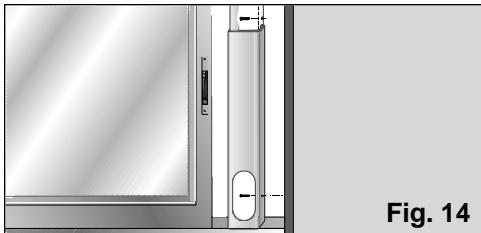

Fig. 14
- ❑ The accessory has two holes on the side to fit it to the window / balcony with. The user can secure it to the frame or wall with two screws (not included with the accessory) to prevent it from moving or falling out of place, Fig. 14.